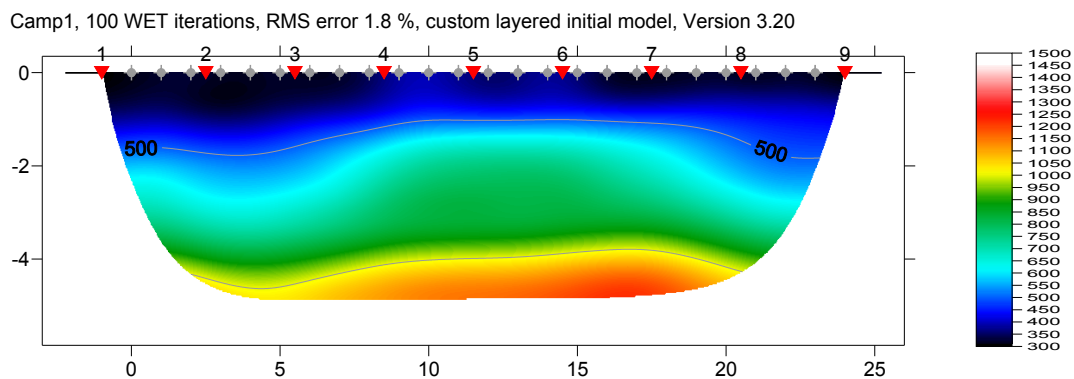

Fig. 6 : WET inversion of CAMP1, with our custom-built layer-based initial model LAYERS.GRD
3. Click *button Accept parameters* and *button Start tomography processing*, to redo WET inversion, with our layered initial model. Obtain output as shown below, in Fig. 6 :
Fig. 7 : Match between grey picked travelttime curves and dashed blue modeled curves, for LAYERS.GRD initial model (Fig. 6). The RMS errors is 7.2%, see \RAY32\CAMP1\LAYERS\LAYERS.FIT .
Both Fig. 2 and Fig. 6 show a similar RMS error after 100 WET iterations (1.6% vs. 1.8%). But Fig. 2 is probably more realistic, since it is based on smooth 1D-gradient initial model GRADIENT.GRD (Fig. 1) with smaller initial RMS error of 3.4% (Fig. 8).
Our custom-built LAYERS.GRD layered initial model (Fig. 6) shows an initial RMS error of 7.2% (Fig. 7), twice as large as for default GRADIENT.GRD (Fig. 8). Obviously Fig. 8 shows a better initial match than Fig. 7, between picked and modeled traveltime curves.